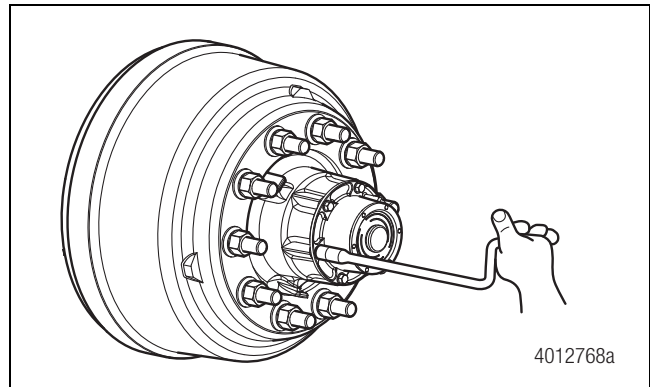

Figure 5.13
9. Install the hubcap using a new hubcap gasket. Install the hubcap capscrews and tighten to 15-30 lb-ft (20-41N•m) in a criss-cross pattern. Figure 5.13.